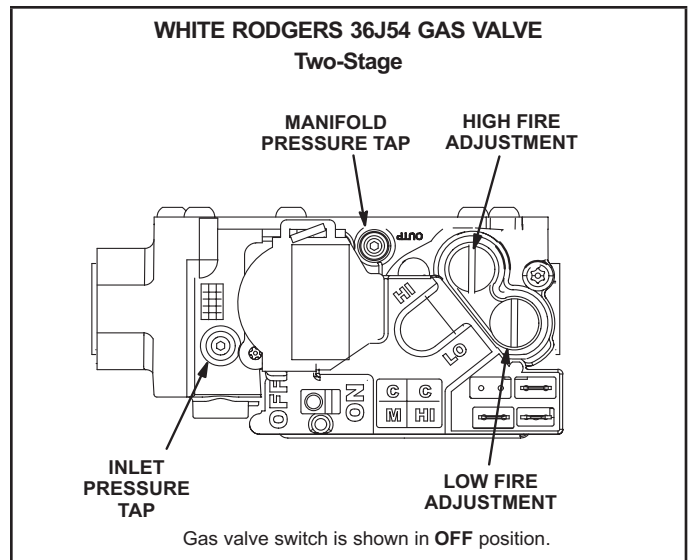
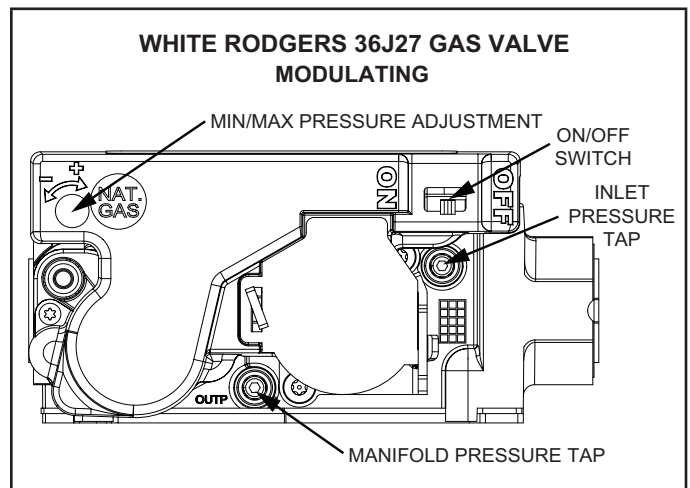

Figure 29
Figure 30
5. Move gas valve switch to **OFF**. See Figure 29 and Figure 30.
6. Wait five (5) minutes to clear out any gas. If you then smell gas, **STOP!** Immediately call your gas supplier from a neighbor's phone. Follow the gas supplier's instructions. If you do not smell gas, go to the next step.
7. Move gas valve switch to **ON**. See Figure 29 and Figure 30.